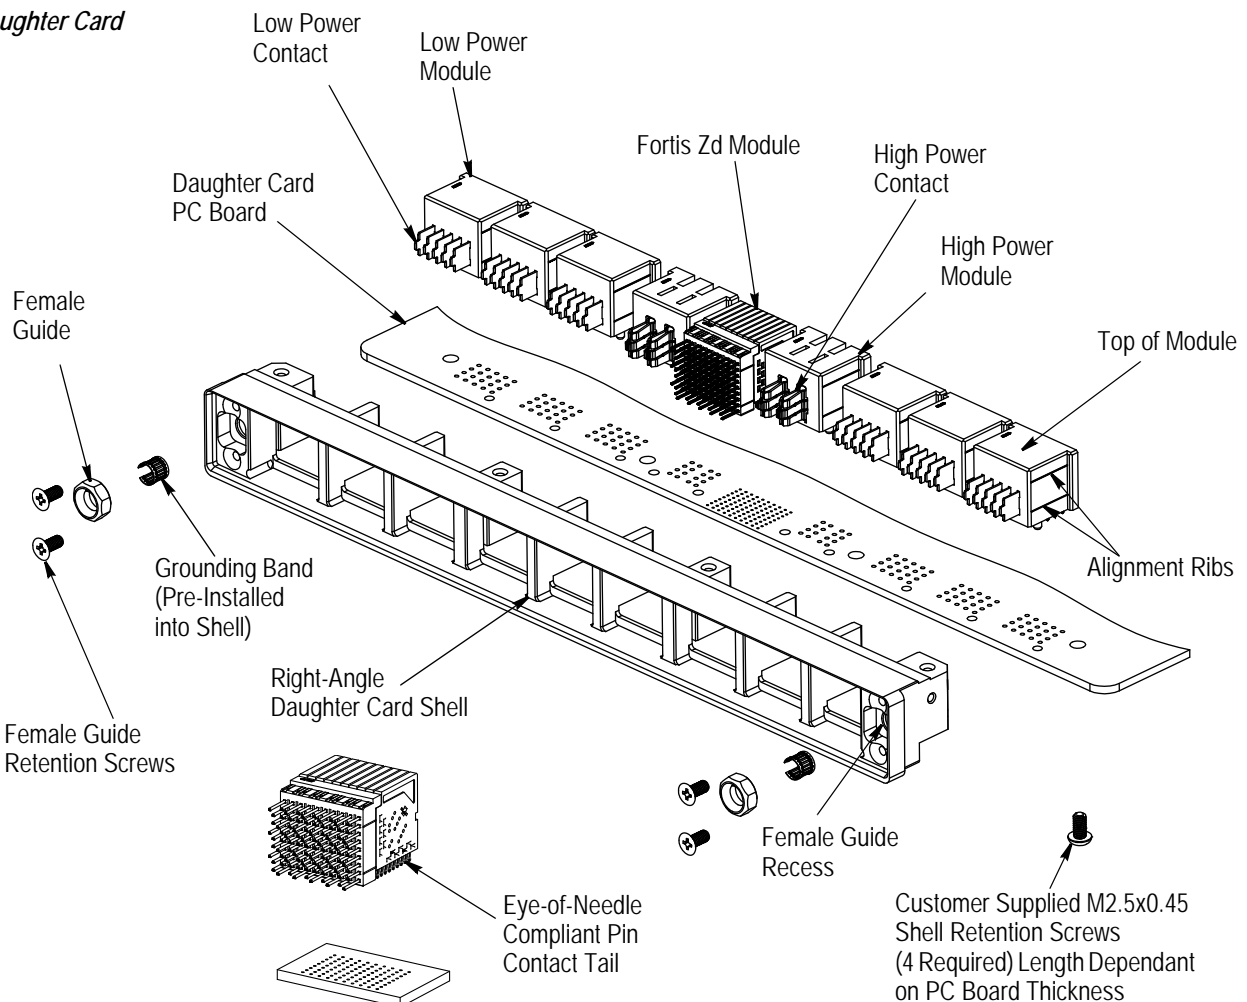

Figure 1
When corresponding with personnel, use the terminology provided in this document to facilitate your inquiries for information. Basic terms and features of this product are provided in Figures 1 and 2.
3.1. Daughter Card Connector Kit (Refer to Figure 1)